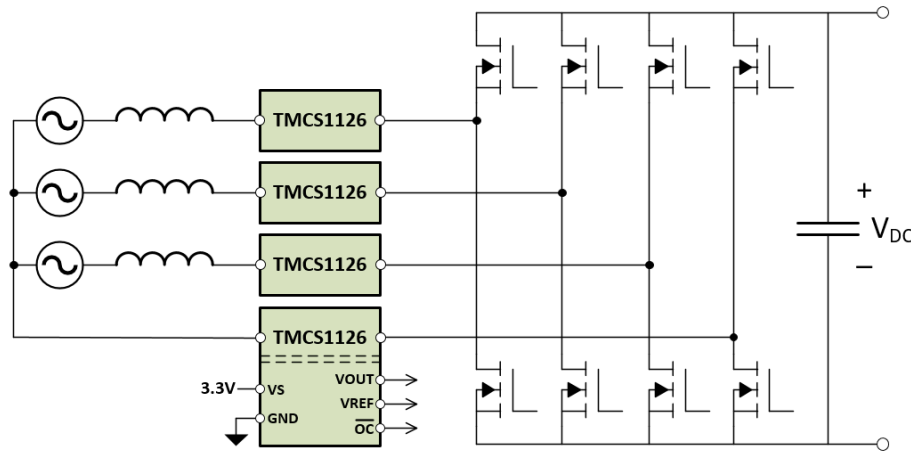

図 9-2. AC to DC Converter Current Sensing
In many applications, power must be converted from AC sources for use in DC circuitry. Some type of controlled power factor correction (PFC) stage is usually needed to improve power transfer efficiency. Faster and faster power switches are being used in modern PFC stages to reduce overall size and to improve power transfer efficiency. Often, the PFC stage of AC to DC converters is connected directly to AC power grids. A primary challenge to sensing in PFC stages is that the current sensor is subjected to large voltage spikes coming from the high-voltage (HV) power grid along with large transients coming from high speed power switches during charge transfer. Inherent isolation in the TMCS1126 construction helps overcome these challenges by providing high levels of isolation between the HV current sensing nodes and low-voltage control circuitry, with high common-mode transient immunity (CMTI). 図 9-2 shows the use of the TMCS1126 measuring phase currents in a common AC to DC converter stage.